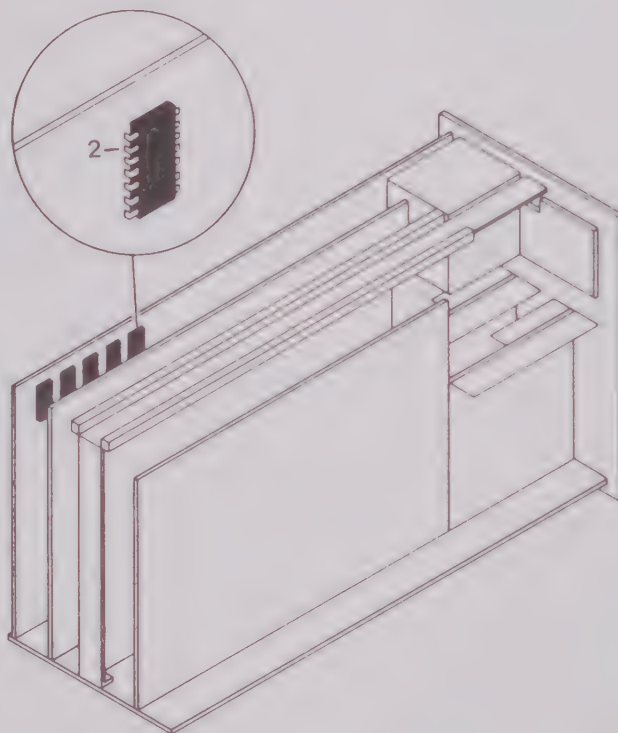

Figure 8-1
8.2.2. Measure the frequency (Time Base) at IC32, Pin 2, (Figure 8-1).